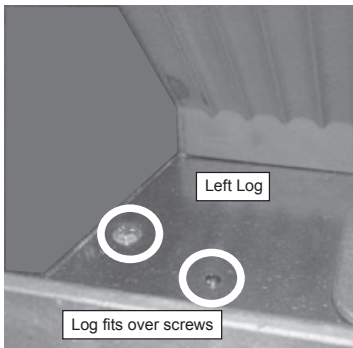

Figure 23.1
1. Place the left log as shown. There are 2 indentations in the bottom of the log to fit over the screw heads in the firebox (**Figures 23.1 and 23.2**).